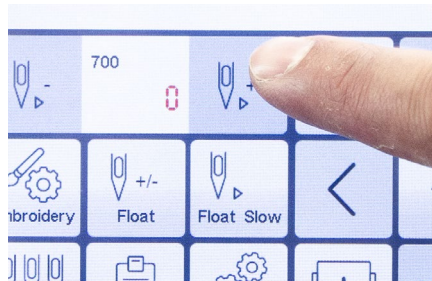

Figure 98
2. When you enter stitch floating mode, two needle icons will appear on the screen. Tap the **minus needle icon to float backward**, or tap the **plus needle icon to float forward.** **See Figure 98.**